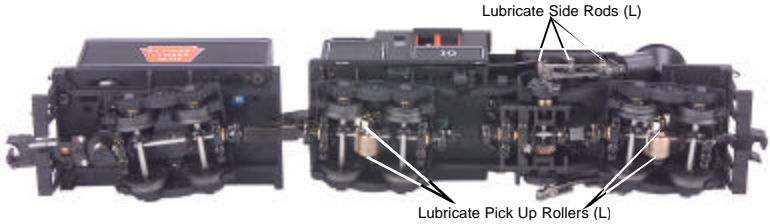
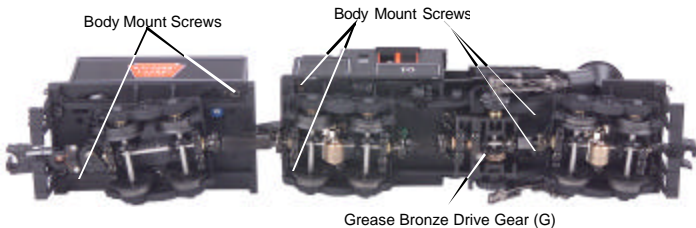
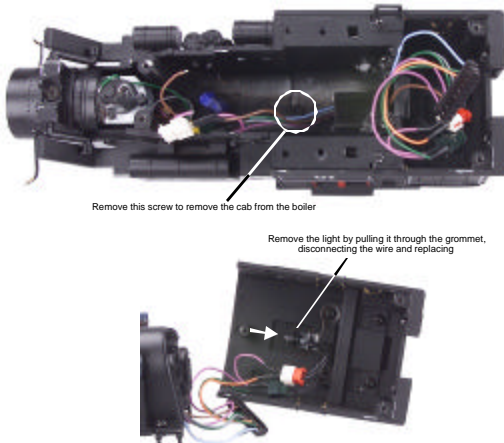

Figure 2. Lubrication Points on the Engine
Figure 3. Greasing Points on the Engine and Body Mounting Screws
Figure 8. Replacing the Cab Light
3. You should lubricate all side rods and linkage components and pickup rollers to prevent them from squeaking. Lightly grease the outside idler and drive gears (marked “G” in Fig. 3 on page 10) to prevent them from squeaking. Use light household oil and follow the lubrication points marked “L” in Fig. 2 on p. 10. Do not over-oil. Use only a drop or two on each pivot point.
You should regularly lubricate all side rods, linkage components, gears and pickup rollers to prevent them from squeaking. Use light household oil and follow the lubrication points marked “L” in Fig. 2. Do not over oil. Use only a drop or two on each pivot point.
You should also grease the trailing locomotive truck tongue to enhance their ability to slide on the chassis. Follow the grease points shown on Fig. 3.
Remove the locomotive boiler from its chassis as shown in Figure 3. Once the body has been removed, remove the screw holding the cab to the boiler as seen in Figure 8. To replace the bulb, remove the bracket holding the interior light bulb. Gently but firmly pull bulb from the rubber grommet. Replace the light and reassemble.